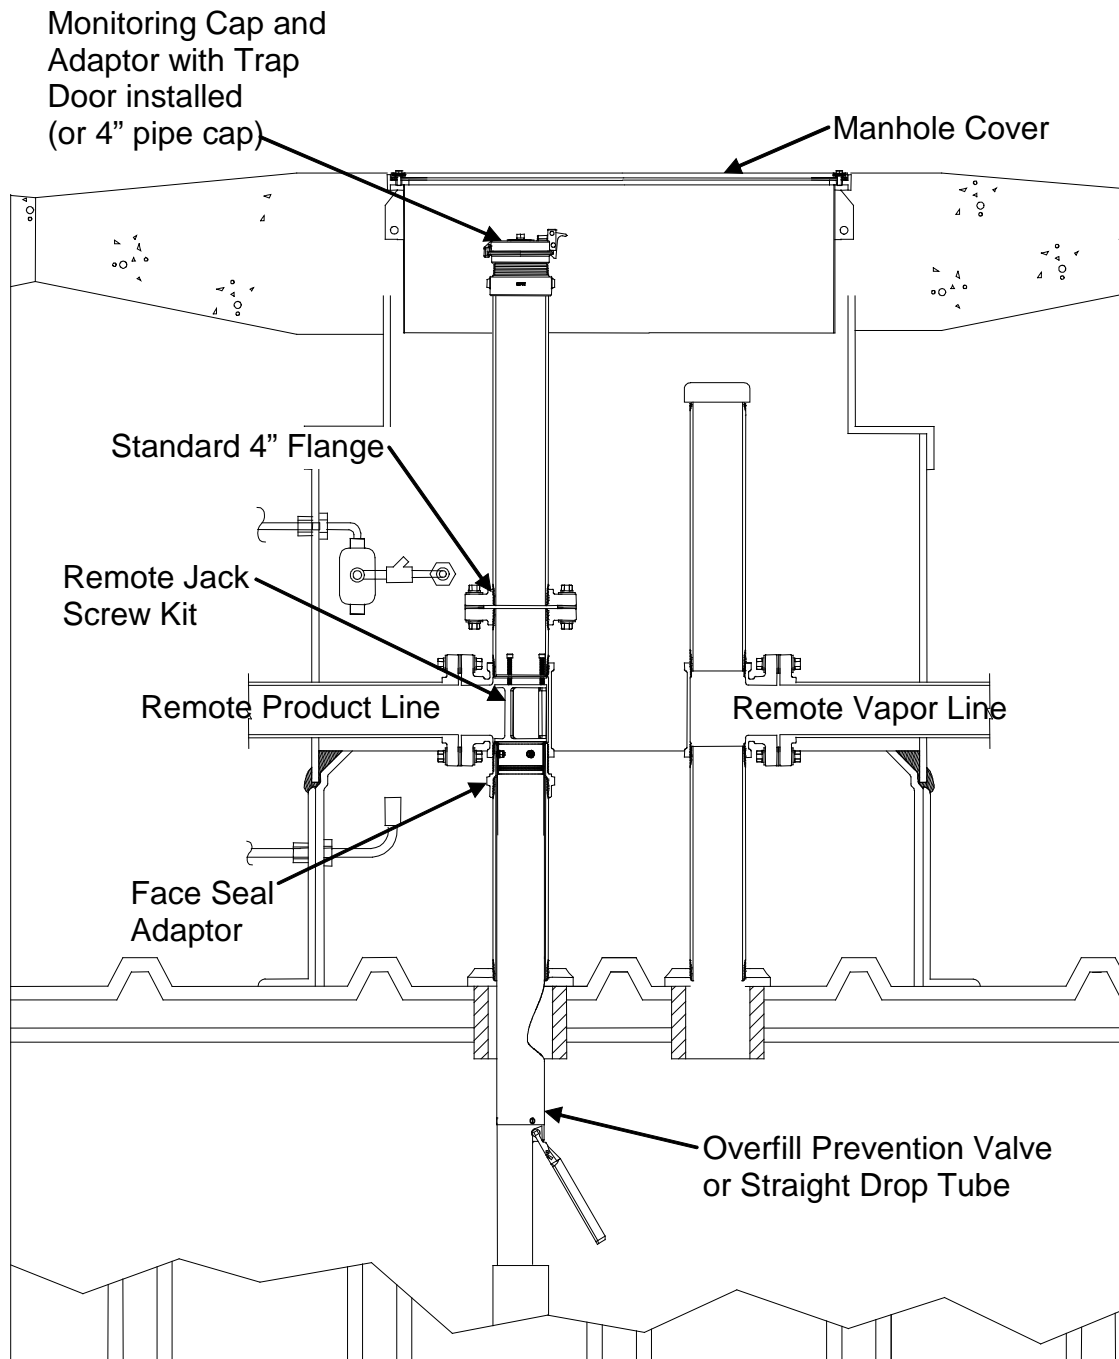

Figure 2-7
3. Compliance determination of the P/V valve performance specifications in items 2a and 2b for the FFS PV-Zero P/V vent valve shall be conducted with the valve remaining in its installed position on the vent line(s). The PV-Zero portion of the IOM outlines the equipment needed to test the valve in its installed position.
4. A manifold may be installed on the vent pipes to reduce the number of potential leak sources and P/V valves installed. Vent pipe manifolds shall be constructed of steel pipe or an equivalent material that has been listed for use with gasoline. If a material other than steel is used, the GDF operator shall make available, information demonstrating that the material is compatible for use with gasoline. One example of a typical vent pipe manifold is shown in Figure 2-7. This shows only one typical configuration; other manifold configurations may be used. For example, a tee may be located in a different position, or fewer pipes may be connected, or more than one P/V valve may be installed on the manifold.